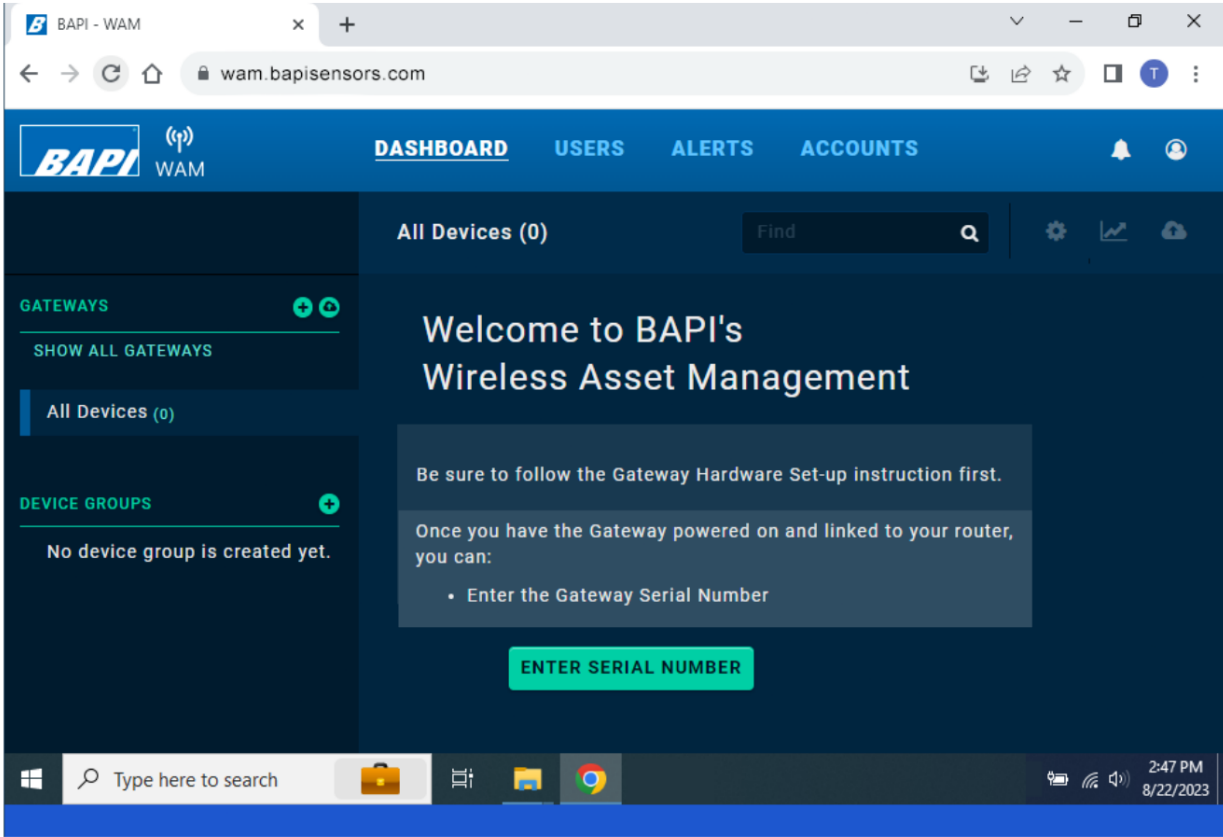
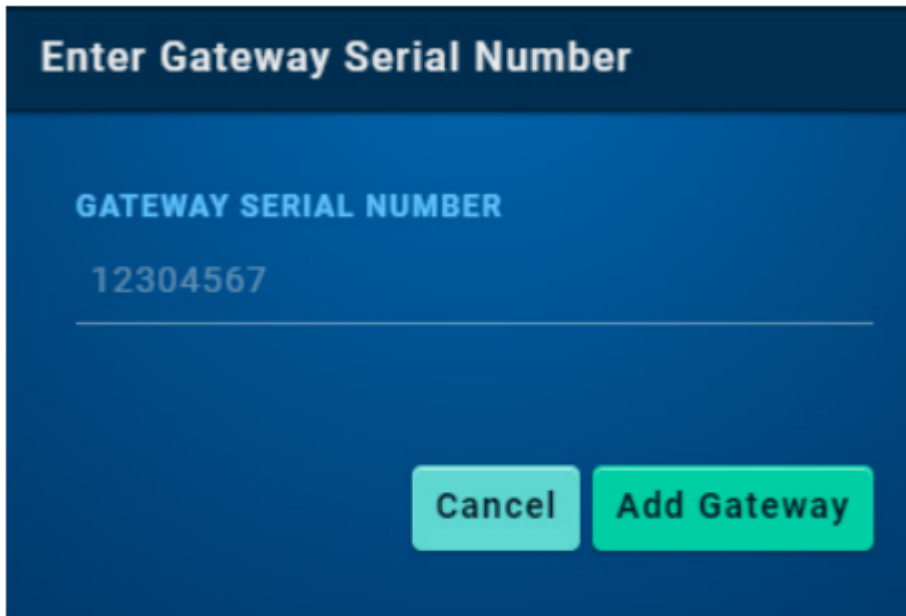

Fig. 6: WAM Website Initial Screen
Fig. 7: Enter Gateway Serial Number Window
7. Click the “Enter Serial Number” link, or click on the green “+” icon across from the word “Gateway” in the left menu bar (Fig 6), to open the “Enter Gateway Serial Number” window (Fig 7).